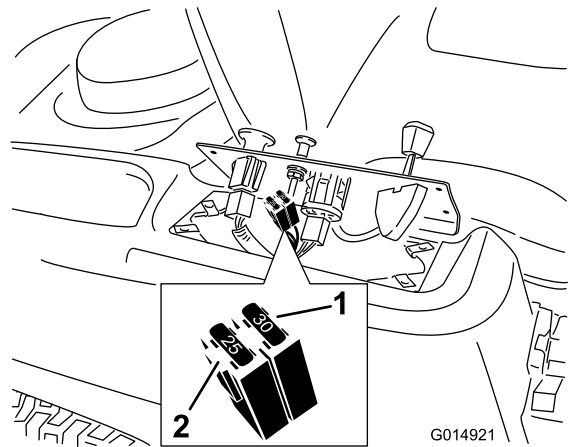

Figure 46
2. Lift the control pane up to access the main wiring harness and fuse block (Figure 46).
3. To replace a fuse, pull out on the fuse to remove it (Figure 46).